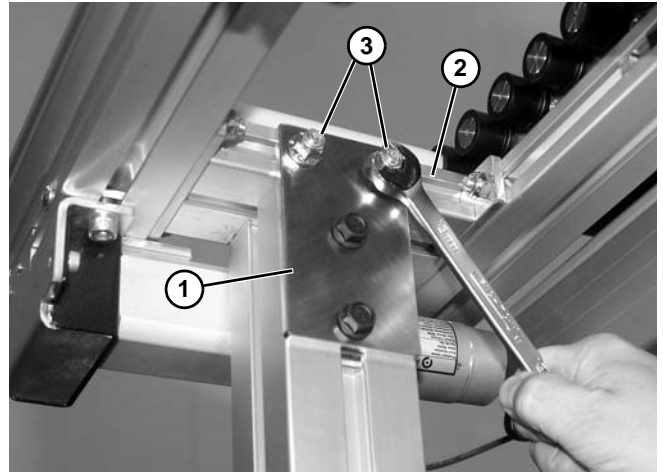

Figure 4
2. Insert two T-bolts into horizontal stand channel, and secure bracket (**Figure 4, item 1**) to conveyor (**Figure 4, item 2**) with two nuts (**Figure 4, item 3**).